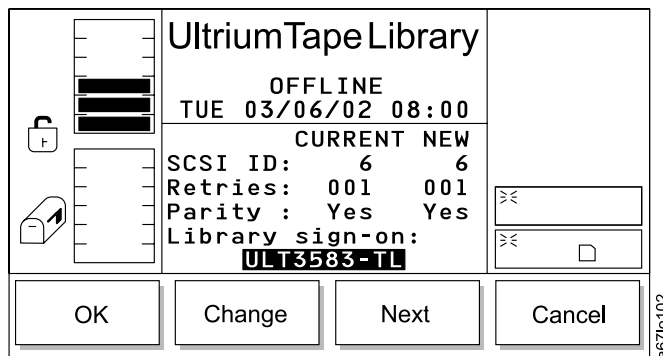

Figure 143. Library Dialog
- If **Next** is selected, the next field in the list becomes the active field. If the next field is the Library sign-on field and you press the button below **OK**, the Library Dialog displays (see Figure 143).